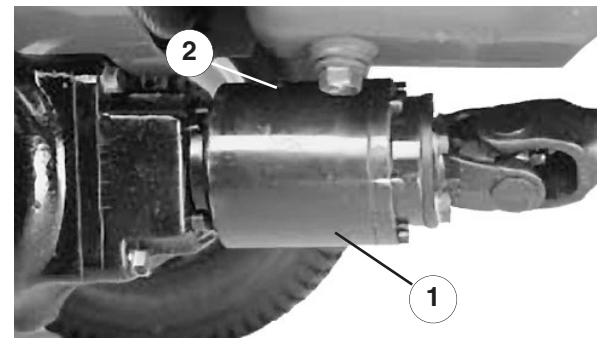

Figure 53
3. Rotate the clutch so the check plug is positioned downward (Fig 53).